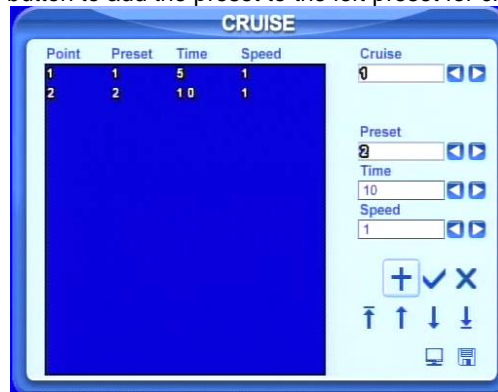

Fig 3.27 Set Cruise
STEP4 Click Set button at right of Cruise. Here users can set cruise track, as Fig 3.27 Set Cruise. Choose the preset, set stay time of every preset. Click + button to add the preset to the left preset for cruise track.